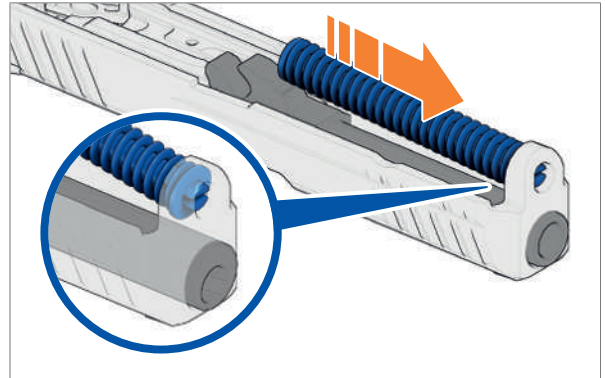

Fig. 67: Insert recoil spring
3. Insert recoil spring into slide (*Fig. 67*).